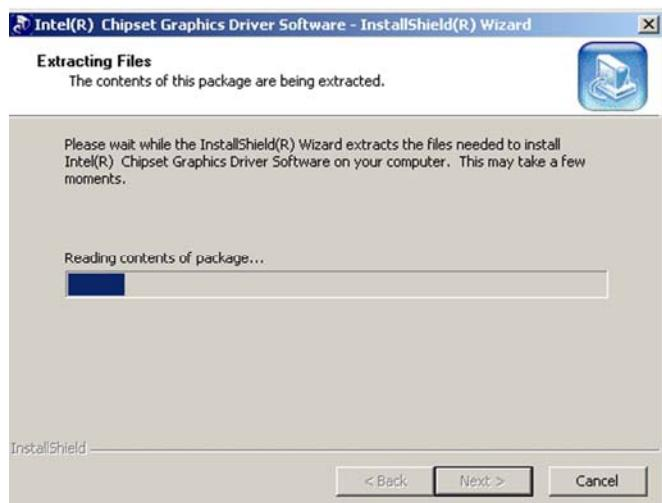

Figure 7-10: GMA Driver File Extraction
Step 22: Click **NEXT** to extract the GMA driver files. See **Figure 7-10**.